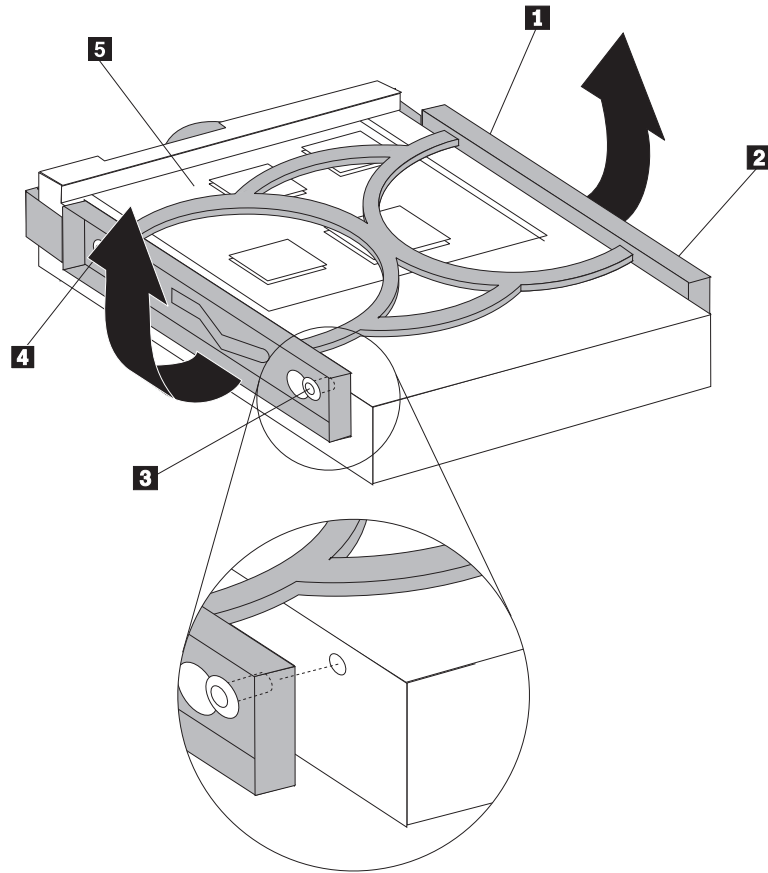

Figure 23. Installing the hard disk drive into bracket
7. To install the new hard disk drive into the blue bracket, flex the bracket and align the pins **1** through **4** on the bracket with the holes in the hard disk drive. See Figure 23. Do not touch the circuit board **5** on the bottom of the hard disk drive.